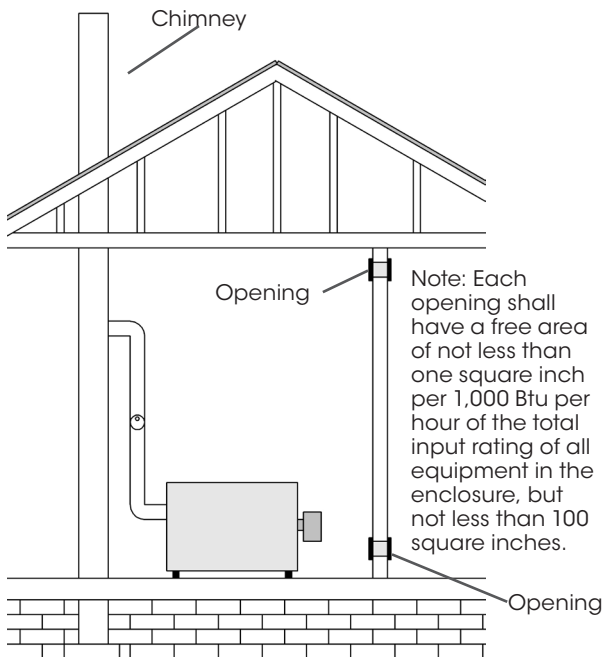

Figure 7 - Air from inside
- **Oil Pressure Adjustment:** Adjust flame length in the heater combustion chamber viewed through the inspection port located directly above the burner gun assembly by increasing CW or decreasing CCW the adjuster located on the oil delivery pump (figure7). The adjuster increases or decreases the pump motors RPM, which increases or decreases the delivery of fuel to the burner. When you increase or decrease the fuel to the burner, you will notice the flame length will increase or decrease. Adjust flame length so flame is just slightly less than halfway down main combustion chamber tube.
- a) All air from inside of building: Providing infiltration in the rest of the building is adequate, the confined space may be provided with two permanent openings communicating directly with another room or rooms of sufficient volume that the total volume of all spaces meets the criteria for unconfined space. One opening must be within 12 inches of the bottom of the enclosure. See Figure 7.